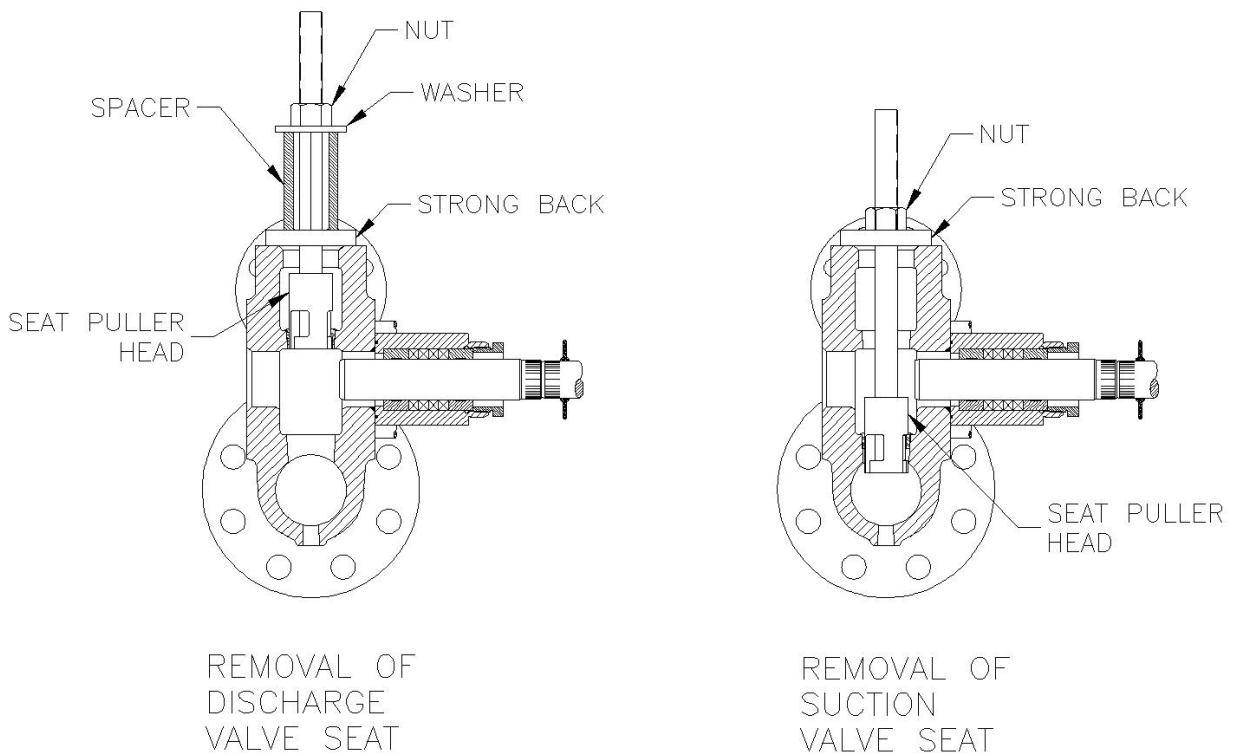

Figure 20
- g. Use the special valve puller and remove the seat. See Figure 20.